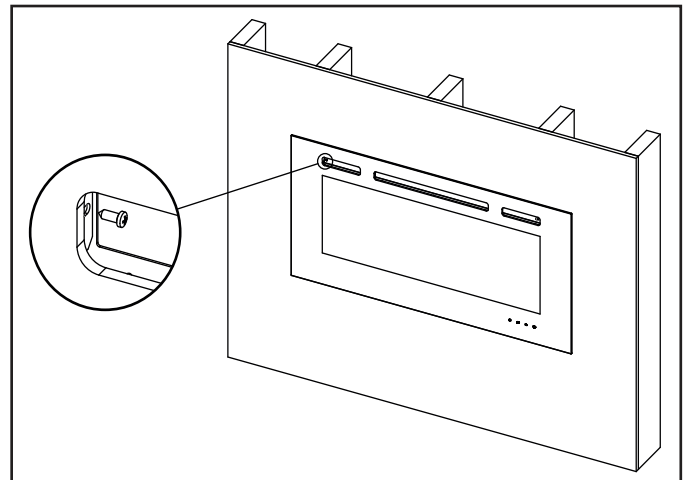

Figure 4.17 Secure Glass Front
4. Thread the two (2) ST3X8 screws into the threaded holes on the glass panel. Check the alignment of the glass panel and securely tighten the screws. See Figure 4.17.